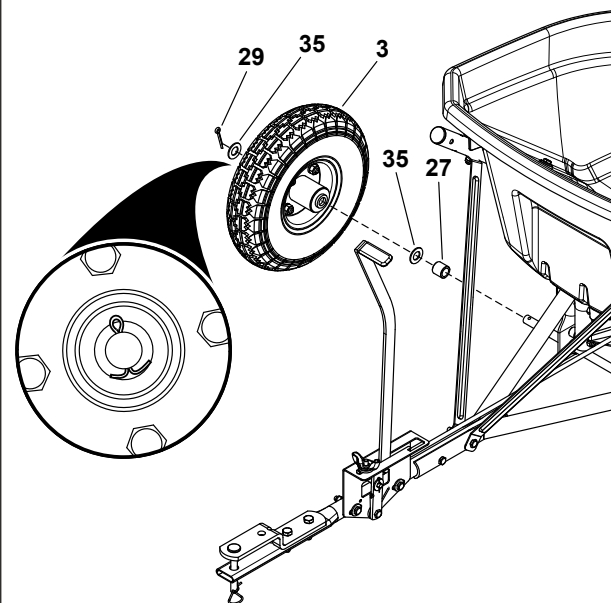

Figure 14
STEP 15: (SEE FIGURE 14)
- Slide a spacer (27), a 1/2" washer (35), and a wheel (2) onto the round end of the axle.
- Slide a 1/2" washer (35) over the axle and secure the wheel with a 1/8 x 1-1/4" cotter pin (29), spreading the ends.